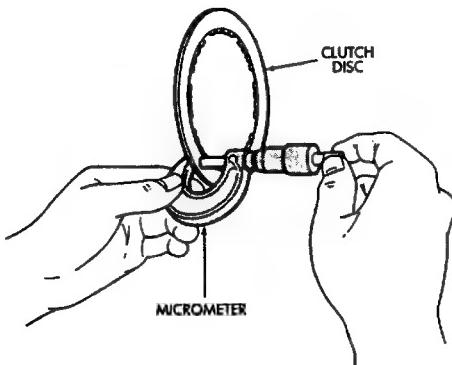

Fig. 10 Measuring Clutch Disc Thickness
(18) Measure clutch disc thickness (Fig. 10). Minimum allowable thickness is: 1.84 mm (.0724 in) on 4-cyl. transmissions and 1.51 mm (.0595 in) on 6-cyl. transmissions.